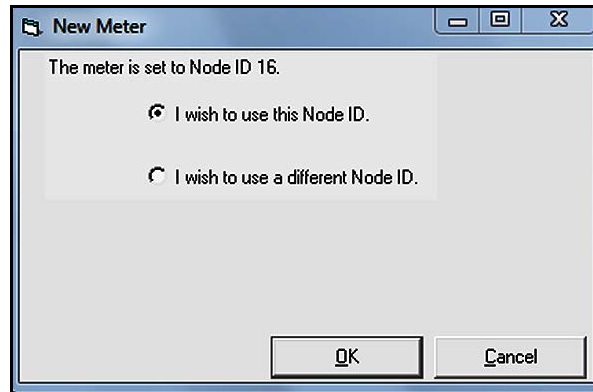

Figure 33: Node ID Confirmation
7. After responding to the previous dialog box, a dialog box showing the Node ID (16 in this example) of the meter appears (see Figure 33 below). Select the "I wish to use this Node ID" radio button and then click on the **[OK]** button.